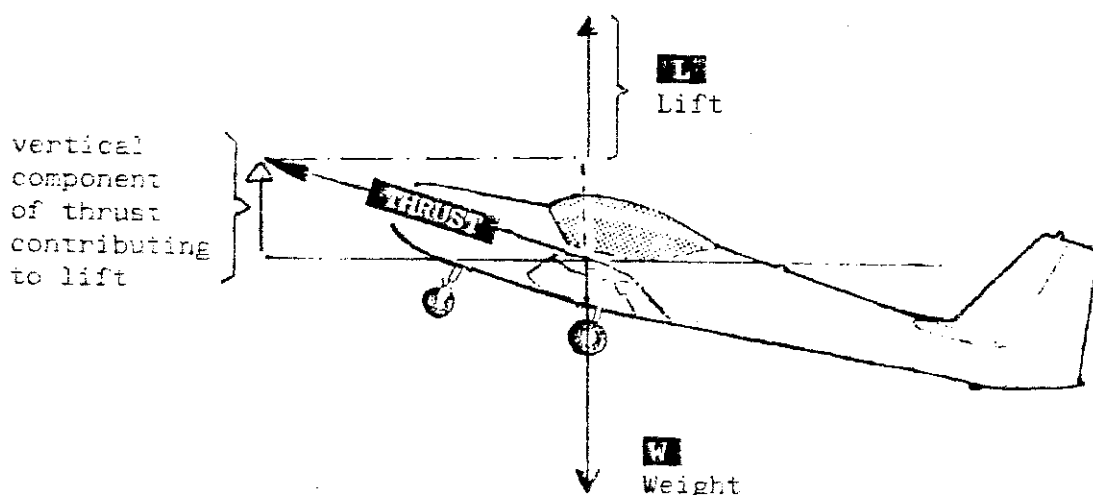

Fig 10.3 Effect of power on the stall.
- c Power If an aircraft stalls with power on, the thrust line is inclined upwards as the angle of attack is increased, and a component of the thrust will contribute to the lift (Fig 10.3). In addition, slipstream over the inboard section of the wings contributes to the lift. Because of the additional lift, the aircraft stalls at a lower speed and, because of the slipstream effect, the stalling angle of attack is higher. This will be seen as a higher nose attitude at the stall. The higher the power setting, the lower will be the stalling speed.